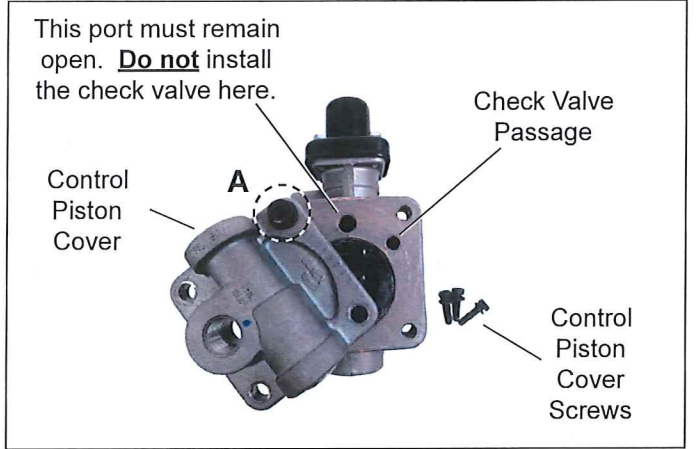

Figure 5 – Check Valve Passage
3. Remove cover screws "B", "C", and "D". While holding the control piston cover in place, loosen cover screw "A" 4-5 turns. Carefully rotate the cover clockwise – pivoting on screw "A" – until the check valve passage in the body is visible. Hold the cover in this position to retain the control piston in the body. (*Refer to Figure 5.*)